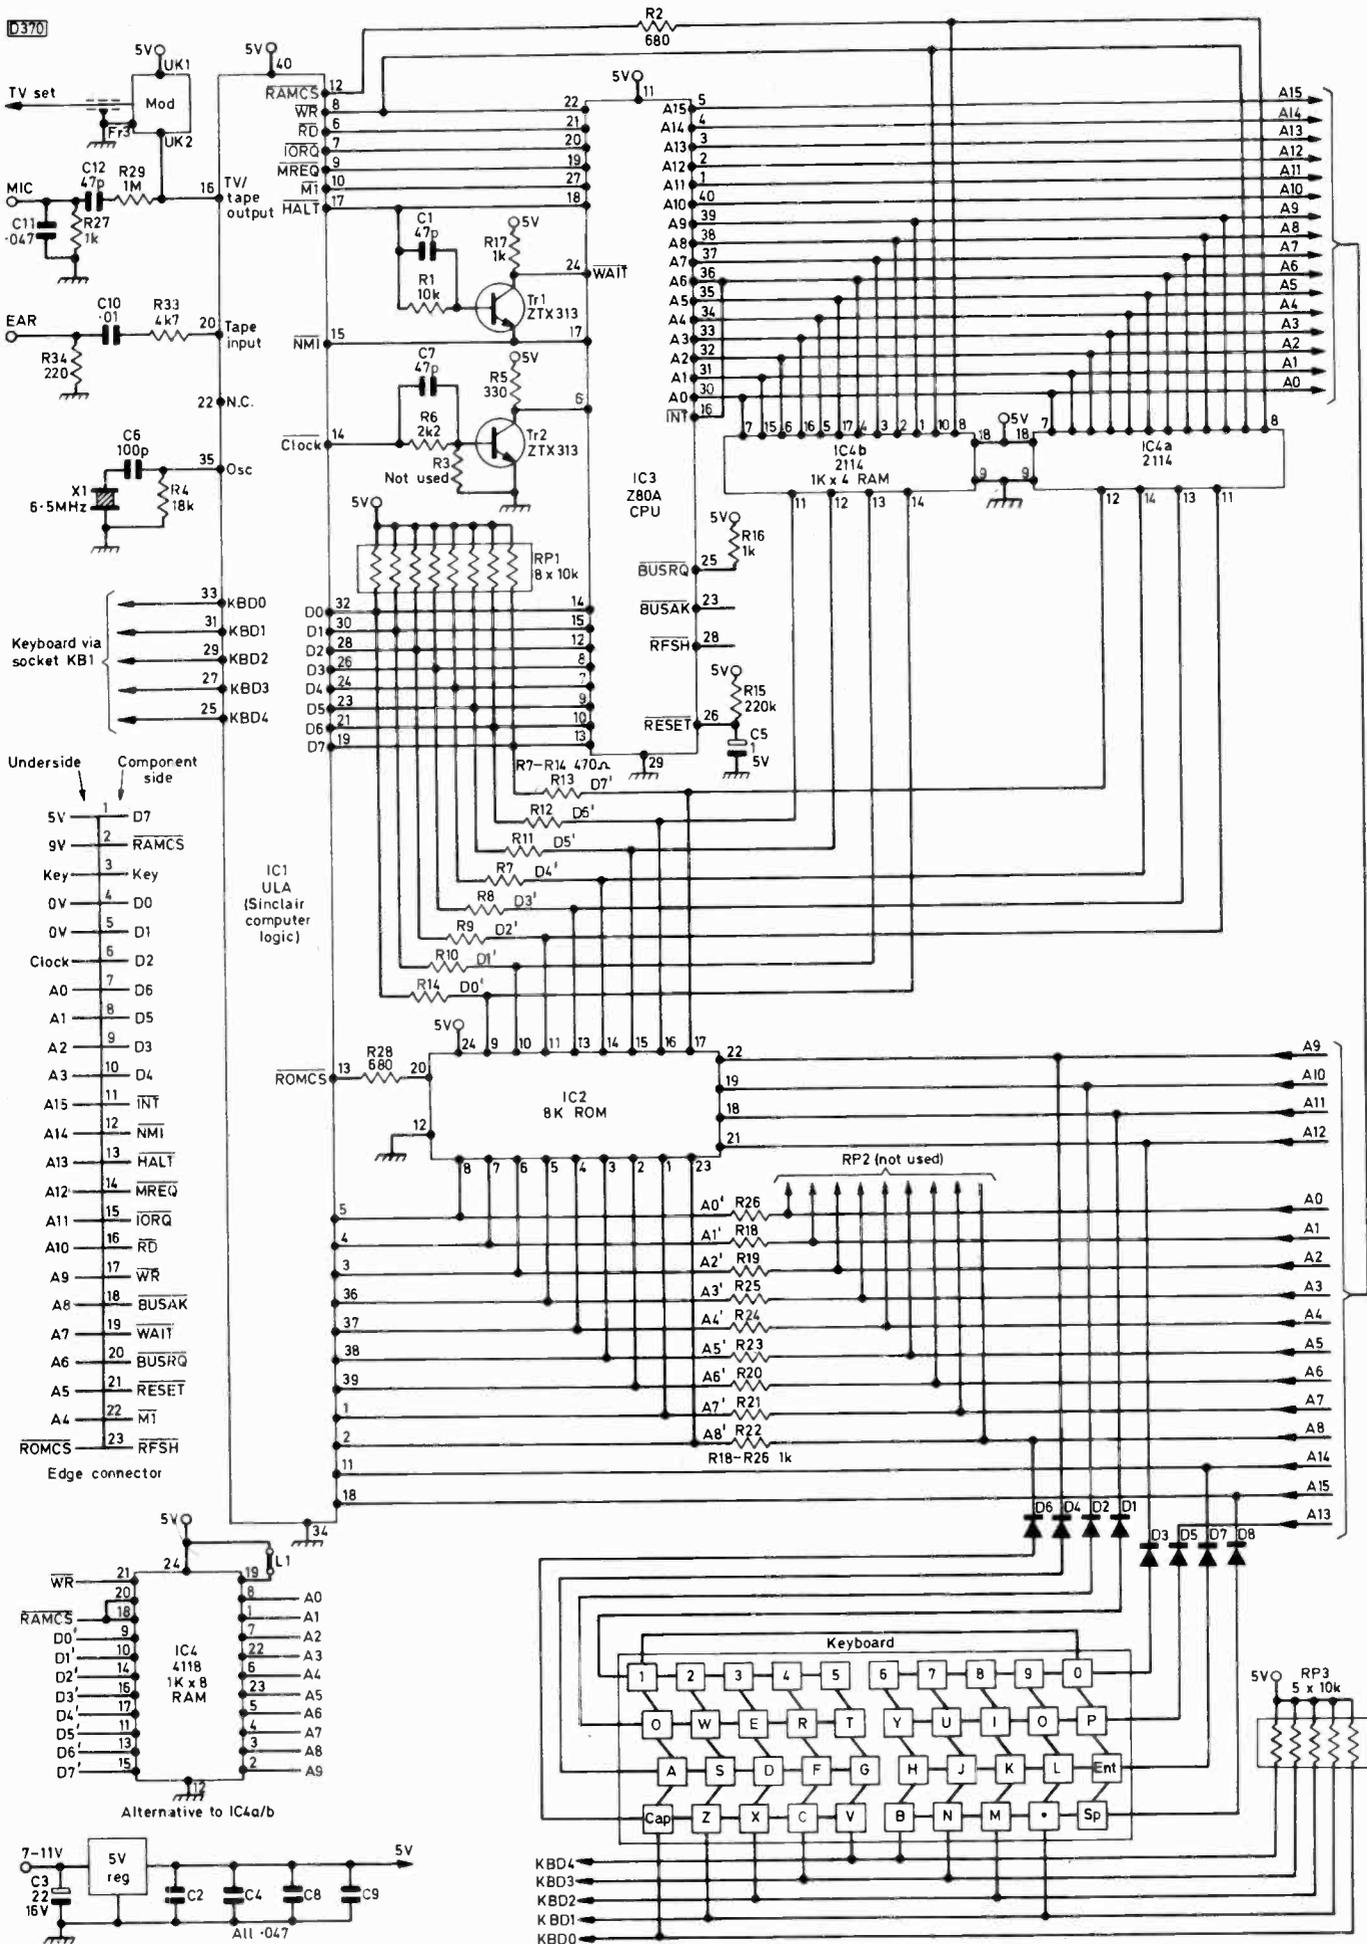

Fig. 1: Basic circuit diagram for the Sinclair ZX81 microcomputer.
So when you study the ZX81's circuit details (Fig. 1) remember that this is a very specialised machine with a component count unlike most other microcomputers, though it does have a standard CPU and a system that functions in the same way despite looking so different.
Further examination of Fig. 1 will help to explain some of the differences and clear up many of the problems described above. You'll see that the ULA chip is connected to the TV and tape circuits directly at pins 16 and 20. It can decode the address lines and then enable either the RAM or the ROM via one of the Chip Select (CS) lines at pins 12 and 13. It also assists the CPU in reading the keyboard, via the KBD0-KBD4 lines. These link the ULA to the keyboard via a five-pin socket (KB1) that's not shown in the diagram. This PCB-mounted socket connects the keyboard "tails" to these lines while an eight-pin socket (KB2), also not shown, connects the other keyboard tails to diodes D1-8. The ULA also produces
There have been at least three versions of the PCB. Fig. 1 represents the issue one board but I've experienced no difficulty in identifying the circuitry on later boards. They vary a little in layout but the component numbers on the boards seem to be the same. One of the only differences on the issue three board is the use of individual resistors in place of packs RP1 and RP3 – R35-42 and R43-47 respectively. There's a photograph of an early version of the issue one board, without component numbers, on page 162 of the ZX81 BASIC Programming Book that was supplied with every machine. This photograph shows all the i.c.s mounted in sockets, which certainly isn't the case with later boards. Note also that the ULA is called the "Sinclair Computer Logic" which is a less standard but perhaps more sensible name.
The power supply unit is separate from the computer and connects to it via a 3.5mm jack plug. It's not shown in Fig. 1 but is a simple d.c. unit that gives very little trouble – except for the moulded jack. If you have one that's been changed, make sure that the tip is positive.
(1) The power supply should provide about 11V at 400mA on load. Less than 7V will be insufficient for the regulator to function correctly. An excessive current reading indicates a fault on the board.
(2) The regulator should deliver 5V to each of the i.c.s on the board. Its heatsink normally runs hot to the touch, but not unbearably so.
(3) The signal from pin 16 of the ULA chip to the modulator should give a 'PH' indication on the logic probe (see Table 2). An oscilloscope should display a signal of 2V peak amplitude from the peak to the bottom of the sync pulses. Inverse K will produce a very faint signal near the end of the field trace.
(4) If the modulation signal is present but the TV output is absent check the modulator's supply voltage and the tuning adjustment screw – this should be approximately 3mm down inside the former.
(5) If the cursor is present, connect one of the contacts of the small keyboard socket KB1 to a contact on the large socket KB2. Check whether a character or keyword appears on screen. Don't worry about shorting more than one connector in either of the sockets as this won't cause any damage to the computer – but it won't produce a display either as the software checks that only one key (apart from the shift key) is being pressed before it produces a screen display.
(6) Two faults that can affect the keyboard circuit are shorts between the lines or open-circuit lines or diodes. They can be identified by their effect on the system. Open-circuits affect only the keys they connect (see Fig. 1). A short effectively holds one key on, disabling the whole keyboard. Faults can occur anywhere in the circuit, from the address bus side to the diodes to the ULA chip's KBD pins. Check for shorts where the PCB tracks run obliquely under socket KB1. The resistance between these KBD tracks should be a few thousand ohms.
(7) The keyboard connection tails are very vulnerable, so to avoid unnecessary work make a thorough check that the computer is working satisfactorily before reconnecting the keyboard. Connect each contact on the small five-pin socket KB1 to at least two contacts on eight-pin socket KB2, checking the screen entries. Finally make sure that the tails are not splitting across (see following paragraph) and that the metallised contacts at the ends are in good condition. Then reconnect the keyboard by turning the case face down, front towards you, with the PCB laid component side up on the case so that the edge connector is at the front left: loop the tails over and push them carefully into the sockets, with a slight rocking movement. Don't push too hard or the plastic will buckle and split. When both tails have been fitted turn the PCB over on to its screw pillars and secure with two short screws.
(8) Often one bank or row of the keyboard fails to operate. This is usually due to cracks across the plastic tails severing one or more of the tracks. If the crack is near the end of the tail a clean square cut can sometimes be made, removing the fault. If not too short the tail can then be refitted. As mentioned above the end contacts of the tails should be checked to make sure that there's a good contact for the connectors. If the ends look a little dirty don't be tempted to apply a liquid solvent cleaner – some of these attack the plastic (they don't soften it, they completely disintegrate it!).